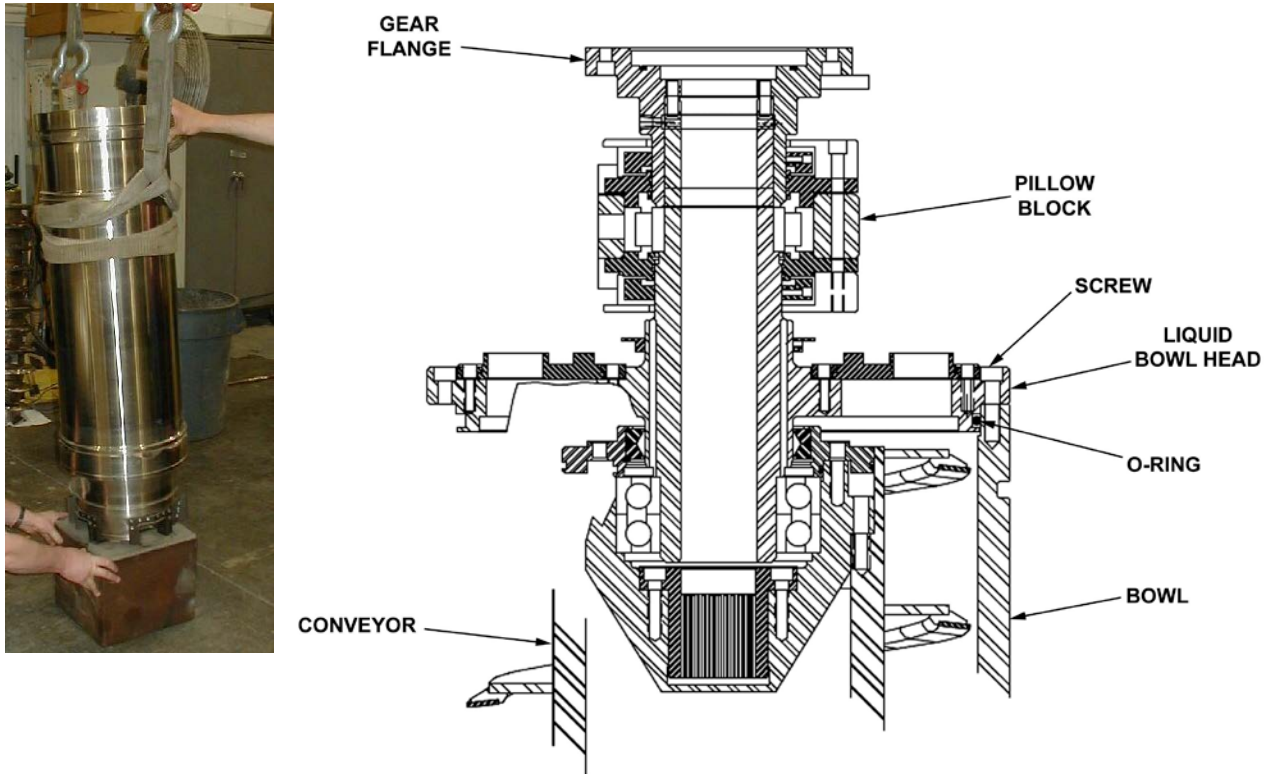

Figure 5-5 Liquid Bowl Head Removal
- a. Hoist and orient rotating assembly vertically with solid end down, and insert end into slot in vertical stand (Figure 5-5) while continuing to support weight with the hoist.